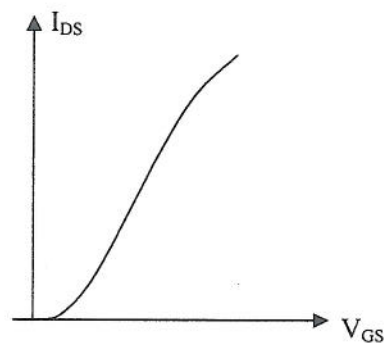

Figure 1.1: The transfer characteristic of a MOSFET in the triode region.
- e) The transfer characteristic of an n-channel MOSFET in the triode region is given in Figure 1.1. Explain, using the necessary graphs, how the threshold voltage, V_{th} , can be extracted from this characteristic. [6]